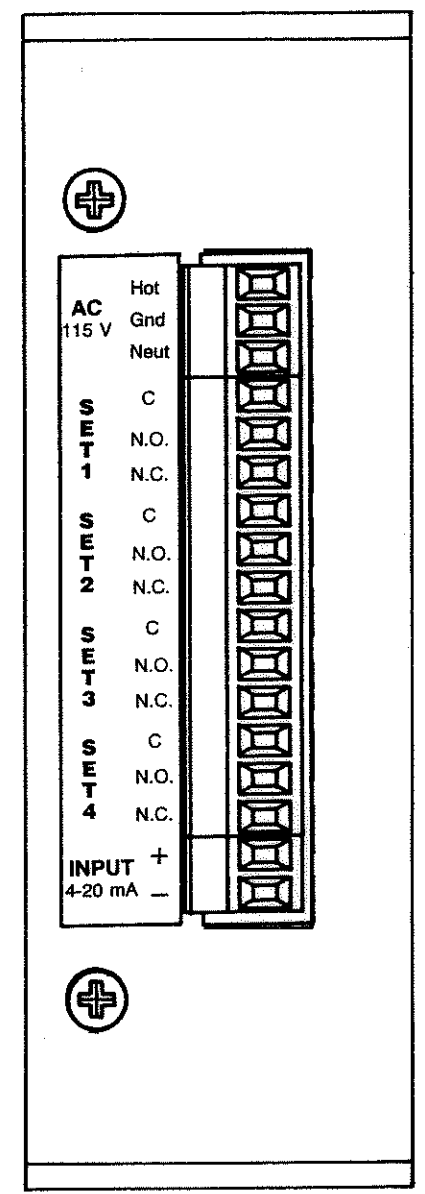

FIGURE B-3
- B-3. Maintain polarity (HOT/GND/NEUT) as indicated at terminals. (Refer to Figure B-3 for terminal designation detail.)